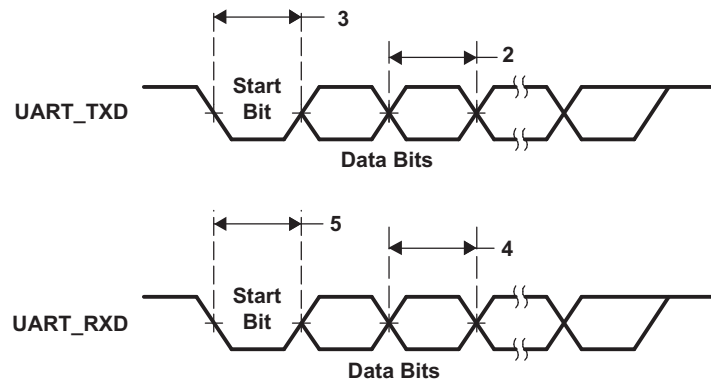

Figure 5-22. UART Transmit and Receive Timing
Table 5-21. Timing Requirements for UART Receive(1) (2) (see Figure 5-22)
- (1) U = UART baud time = 1/programmed baud rate.
- (2) These parametric values are measured at DVDDIO = 3.3 V, 2.75 V, and 2.5 V.
Table 5-22. Switching Characteristics Over Recommended Operating Conditions for UART Transmit(1) (2) (see Figure 5-22)